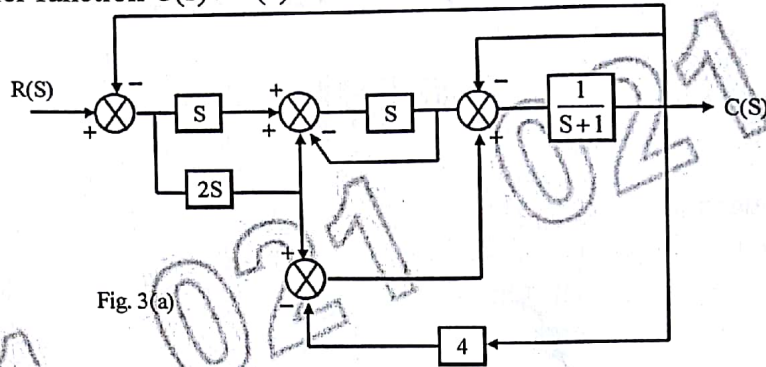

Fig. 3(a)
3. a) Simplify the following system shown in fig. 3 (a) using block diagram algebra and determine transfer function  $C(s) / R(s)$